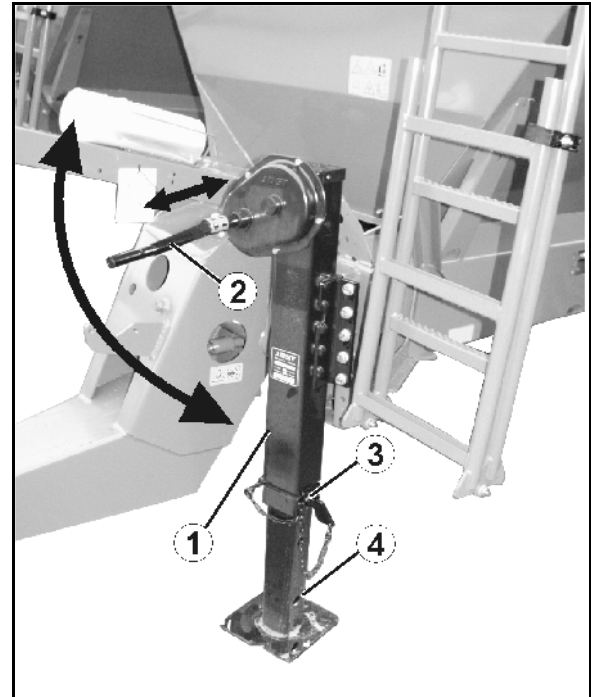

Fig. 41
1. Wind up the stand (Fig. 41/1) to the limit stop using the hand crank (Fig. 41/2).
2. Pull the pins (Fig. 41/3) out of the stand.
4. Insert the pins in the lower hole (Fig. 41/4) and secure them.
1. Hold the inside of the stand steady and pull the pins (Fig. 41/3) out of the stand.
4. Wind down the stand (Fig. 41/1) to the limit stop using the hand crank (Fig. 41/2) until the load is relieved from the yoke bar.